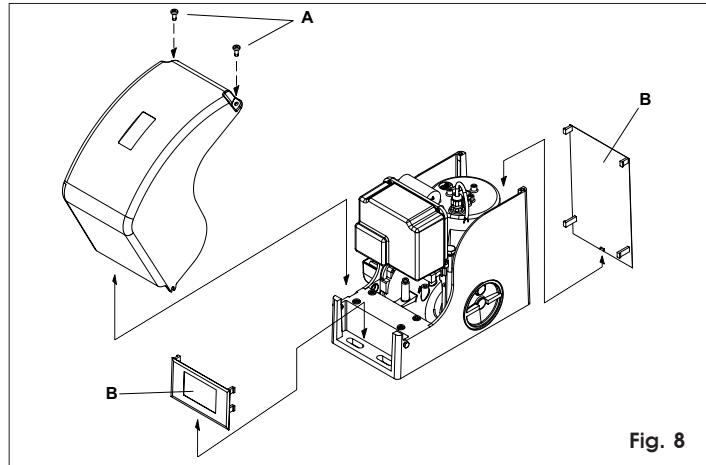

Fig. 8
- Remove the motor cover, fully unscrewing the 2 upper securing screws (Fig.8 ref.A), turn the cover by about 30° and extract it vertically. Withdraw the 2 side guards (Fig.8 ref.B).